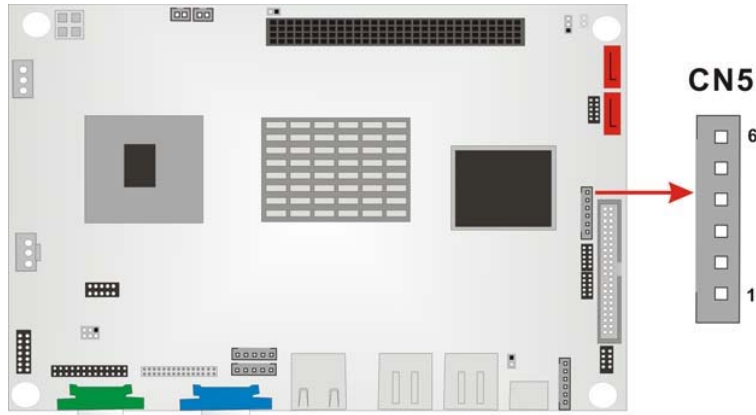

Figure 3-16: LED Connector Location
- CN Location:** See Figure 3-16